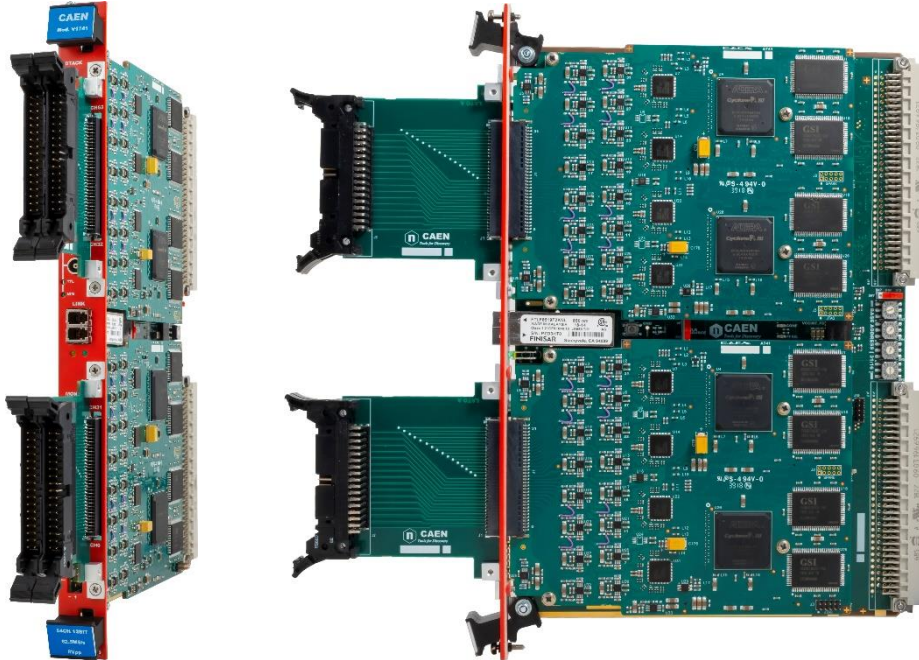

Figure 10.4: A371 32-ch ERNI adapter plugged into the ERNI connectors of V1741, side and front view on the right and left pictures respectively
- Using the A371 32-ch adapter in combination with two A385 16-ch LEMO adapter (**Figure 10.4** and **Figure 10.5**).
In the second case, two A371 adapters must be screwed into the ERNI ports of the V1741. **Figure 10.4** shows the correct mounting side of the A371 adapters, while **Figure 10.5** shows how to connect the A371 with two A385 adapters.